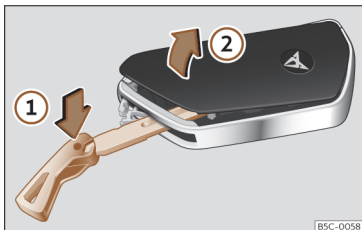

Fig. 77 Vehicle key: opening the battery compartment cover.
- Insert the key blade into the slot >>> **Fig. 77**, press it in the direction of arrow ① and detach the cover by levering it ②.